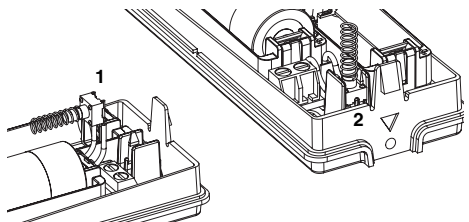

Figure 3. Installing Tamper Switch
5. Install the tamper switch as shown in Figure 3